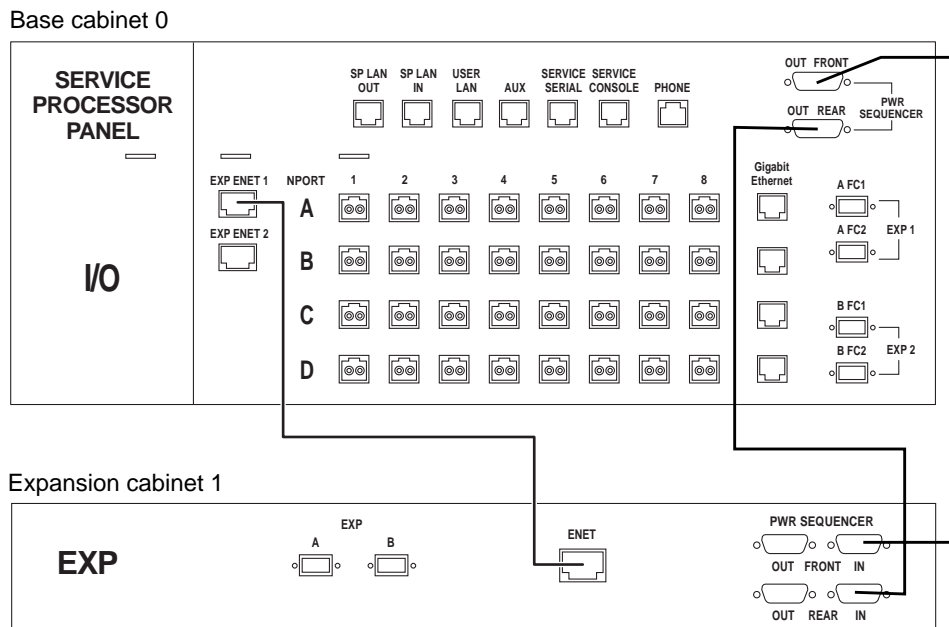

**FIGURE 4** FC Cabling Between a New Service Processor Panel of the Base Cabinet 0, Expansion Cabinet 1, and Expansion Cabinet 2
Connect redundant Fibre Channel (FC) cables (part number 537-1060-01) as follows (see FIGURE 4):